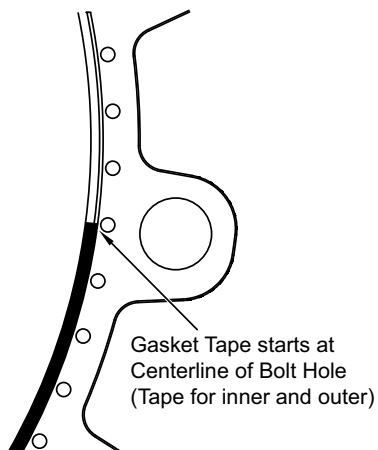
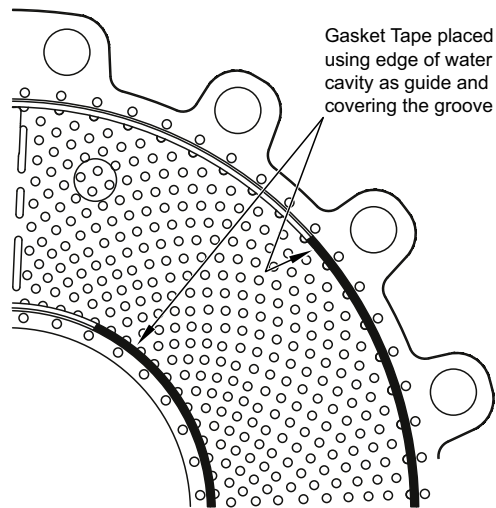

Figure 12 : Start location of gasket tape
Figure 13 : Placement of gasket tape
- Start with the sealing area nearest to the inner diameter on the IRON. Remove the adhesive backing on the gasket tape a little at a time to prevent the adhesive from picking up dirt during installation. Start by positioning one end of the tape and at the centerline of a bolt hole as shown in **Figure 12**, using the edge of the water cavity as a guide, as shown in **Figure 13**. Proceed to apply the tape on the sealing surface following a smooth circular path, being sure to press the tape in place. Note that the tape will cover the machined groove that is located between the water cavity and bolt holes.